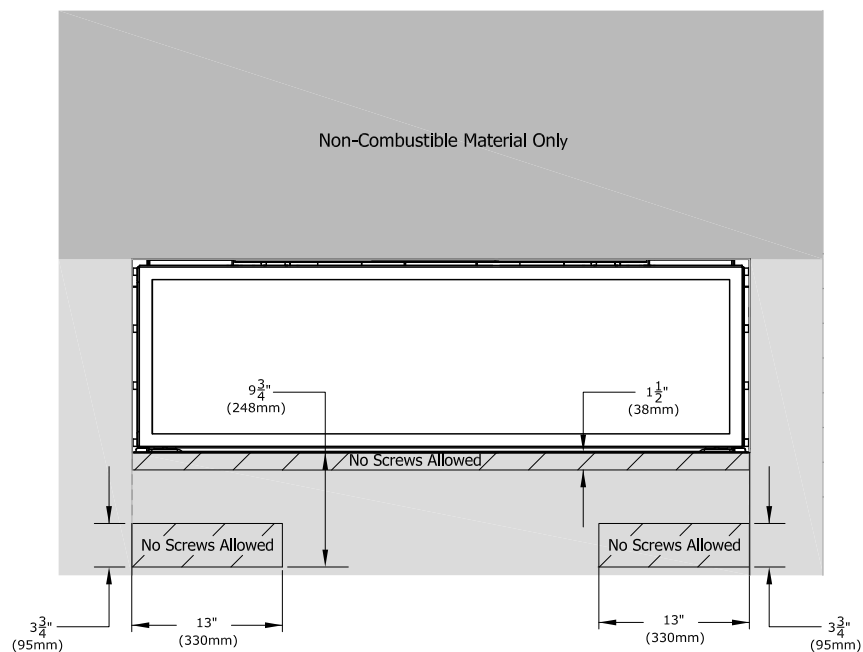

Figure 5.5 - Non-Combustible Finishing Material Requirements - Applies to All Appliance Installation Options
- See Figure 5.5, Non-Combustible Material Zone for the minimum requirement of noncombustible finishing material.
- See Figure 5.5, Non-Combustible Finishing Zone for the minimum requirement of noncombustible finishing material.
- This combustible material goes on any required non-combustible materials as shown in Figure 5.5.
3. Do not use any screws above the framing when installing the bottom panel to avoid damaging any of the gas and electrical components located behind the panel. Refer to Figure 5.5 for maintaining the required areas.